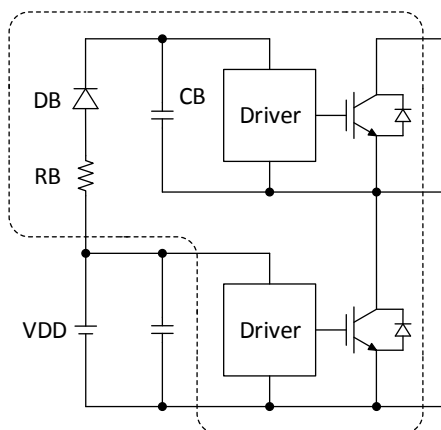

Figure 21. Boot Strap Circuit
VB1, VB2, VB3 The VBx pins are internally connected to the positive supply of the high-side drivers. The supply needs to be floating and electrically isolated. The boot-strap circuit shown in Figure 21 forms this power supply individually for every phase. Due to integrated boot resistor and diode (RB & DB) only an external boot capacitor (CB) is required.